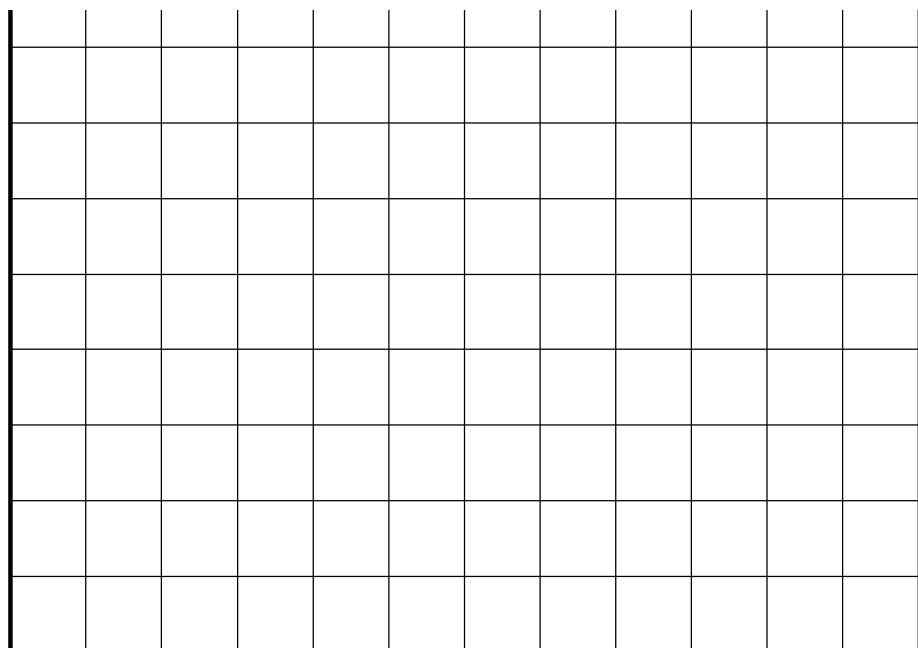

Fig. 16.3.6: Resonance curve, parallel oscillating circuit
- Draw the resonance curve  $Z = f(f)$  in the chart (Fig. 16.3.6) for this parallel oscillating circuit.